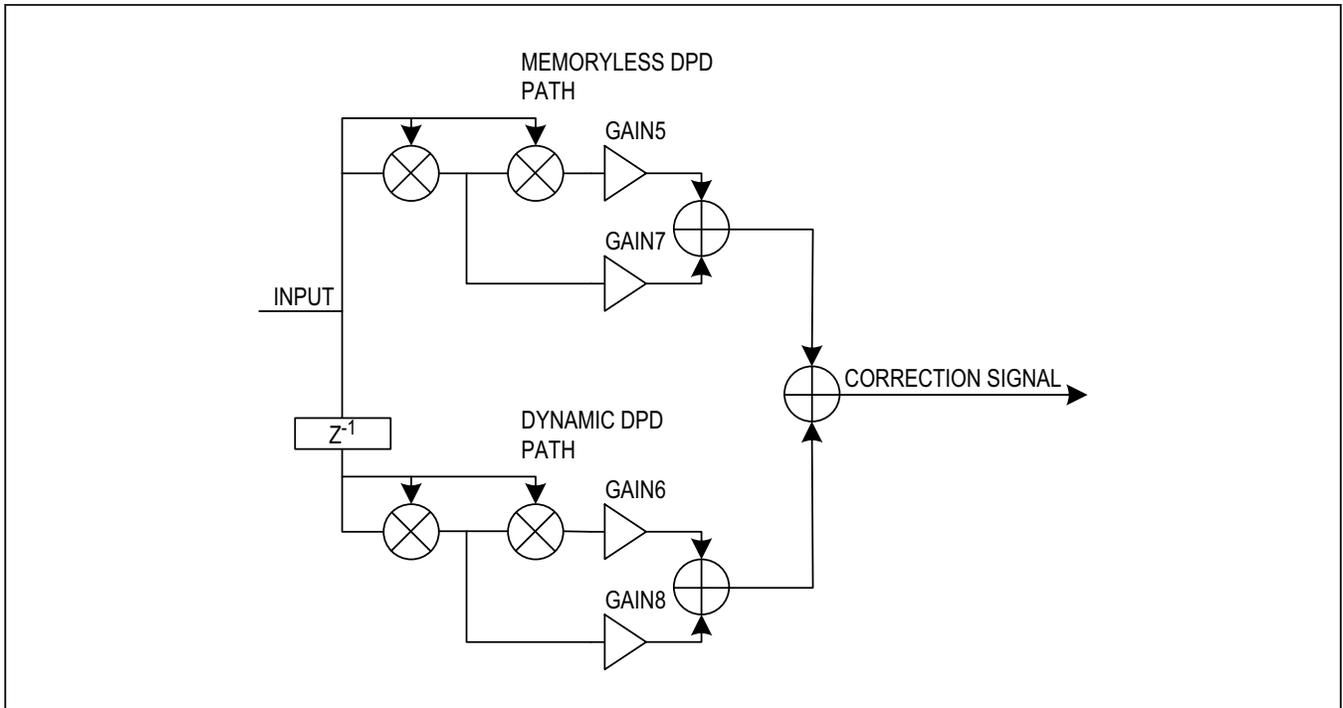

Figure 23. Correction for HD2/IM2, HD3/IM3 with Memory Effect
- PA DPD: This block allows correction for HD2, IM2, HD3, and IM3 that can be represented with the diagonal kernel of a third-order Volterra series. This is intended for correction of “classical” second- and third-order nonlinearities in the DAC and the following amplifiers. The block diagram of this block is shown in Figure 23.